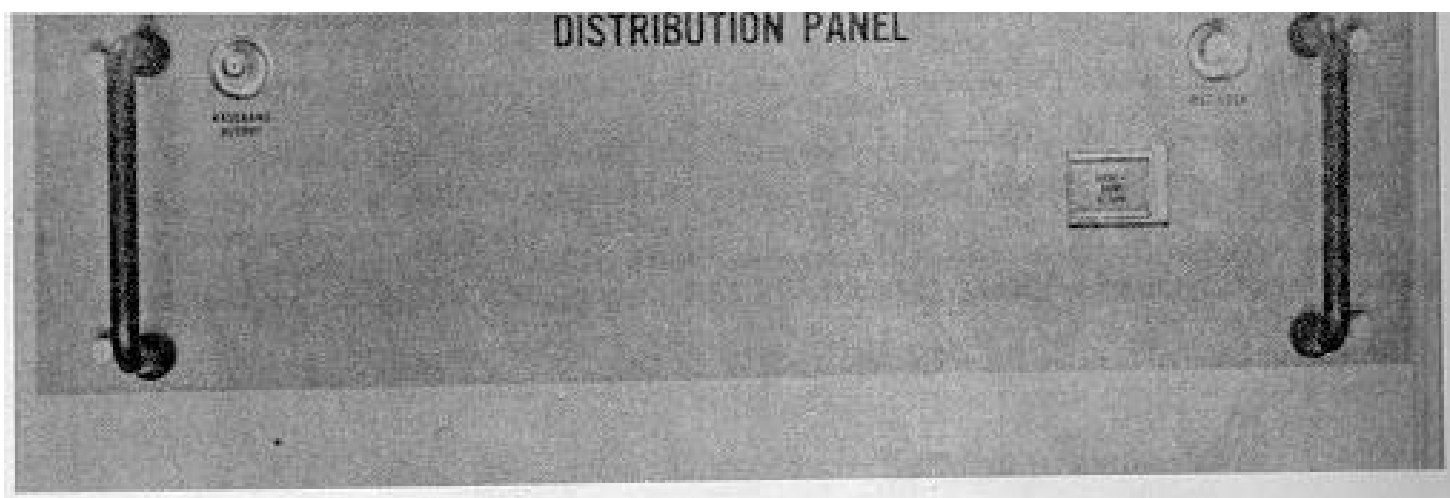

Figure 2-2. Tropospheric Scatter Receiver Cabinet Distribution Panel
- d. Cable W62 to BASEBAND OUTPUT jack J3 on Distribution Panel (figure 2-2).
- e. Cable W82 to OSC LOCK jack J4 (figure 2-2). This connection is made at double conversion tropospheric scatter receivers NUS 5961-9 and 13 only.